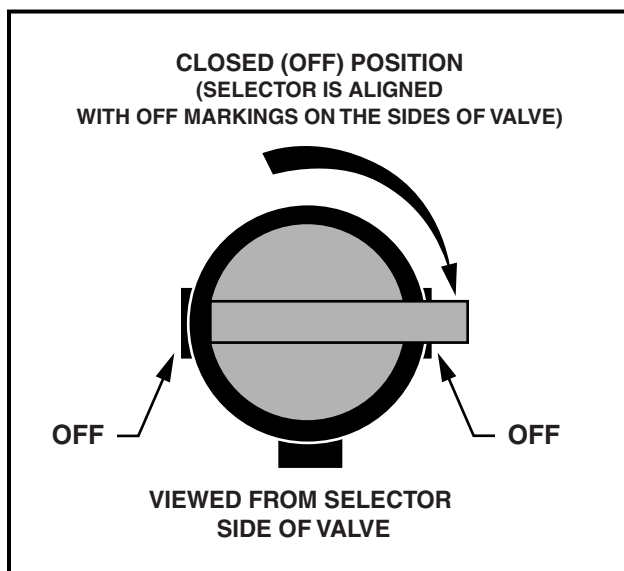

Figure 10 Fuel Shut-off Valve – Closed Position
2. Turn the key switch to the OFF position and place the Forward/Reverse handle in the NEUTRAL position. Remove the key and turn the fuel shut-off valve to the closed (OFF) position when the vehicle is not in use (**Figure 10, Page 21**). **See also Figure 17, Page 29.**
- Turn fuel shut-off valve to the closed (OFF) position (Figure 10, Page 21).
- 3.1. Place the Forward/Reverse handle in the NEUTRAL position. Turn the fuel shut-off valve to the closed (OFF) position (**Figure 10**) and run the engine until fuel remaining in the carburetor and fuel lines is depleted and the engine stalls.